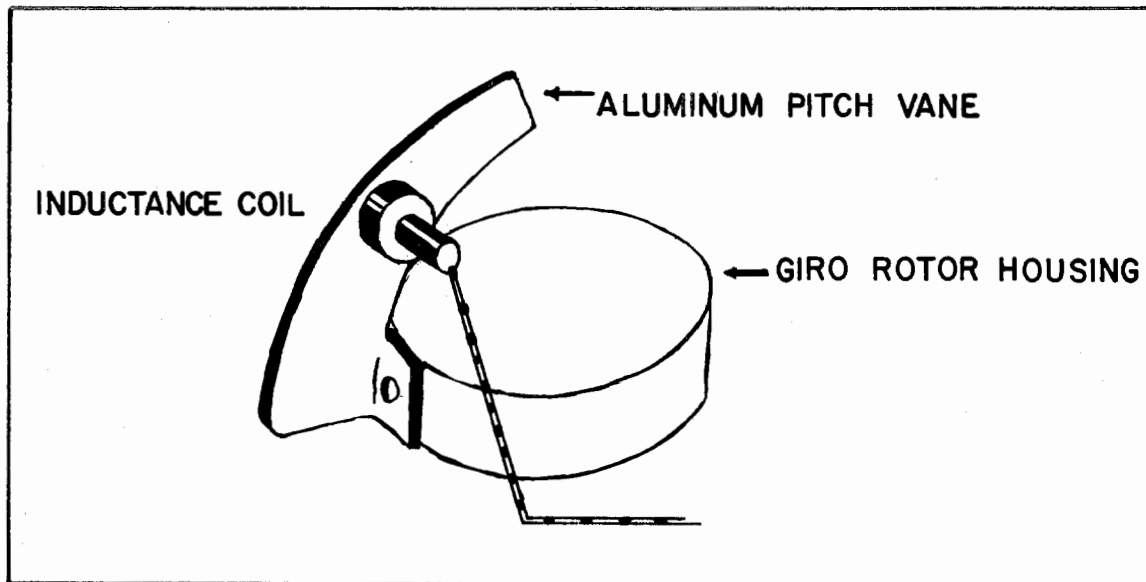

Figure 1-15.
A. INDUCTANCE: The pitch circuit uses the same type inductance coil as the roll circuit. It is mounted on the rotor gimbal frame and is in close proximity to the aluminum pitch vane. (Figure 1-15)